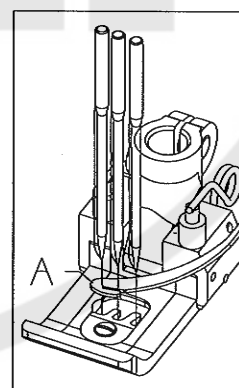

FIG. 2
On return, wiper hook must catch all needle threads (Fig. 2) and draw them into leaf spring (B) to be clamped.